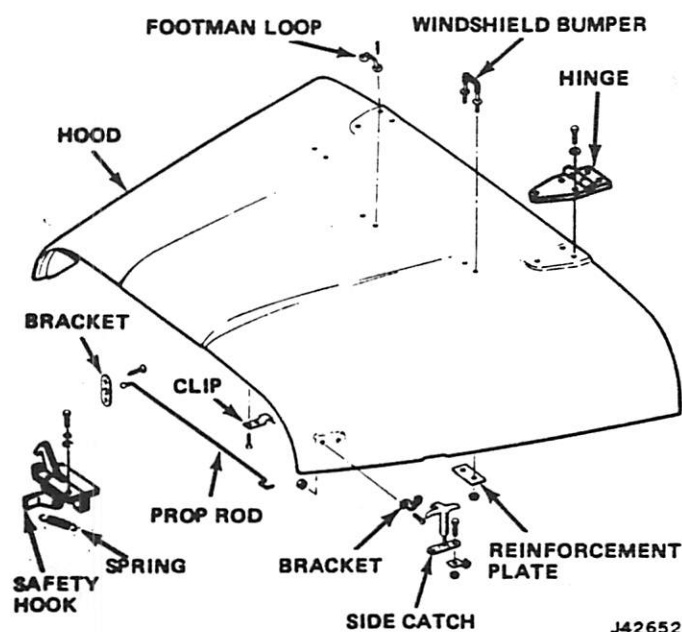

Fig. 3G-1 Hood and Related Parts—CJ and Scrambler Models
- (1) Mark position of hinges on their respective mounting panels before removing hood.
- (2) Detach hood panel from hinges by removing attaching screws, lockwashers, and flat washers.
- (3) Disassembly of CJ and Scrambler hood is accomplished by removing hood prop rod, hood prop rod retainer clip, hood side catch brackets, footman loop, and windshield bumpers (fig. 3G-1).
- (2) Disconnect hood release cable from lock assembly and remove cable support bracket and lower cable.
- (3) Remove tie straps from hood panel brace rod.
- (4) Detach hood panel from hinges by removing attaching screws, lockwashers, and flat washers.
- (5) Disassembly of hood is accomplished by removing hood lever lock assembly, left and right hood panel brace rods, and insulation pad (Cherokee and Wagoneer) cemented to hood panel (fig. 3G-2).
- (1) Remove screws attaching inside release cable bracket to cowl side trim panel using Torx Bit Tool J-25359-C.
- (2) Raise hood.
- (3) Disconnect hood release cable from lock assembly and remove cable support bracket (fig. 3G-2).
- (4) Remove hood cable tie straps.
- (5) Remove cable and rubber grommet from dash panel and remove cable.
The hood bumpers on the Cherokee, Wagoneer and Truck models are adjustable. Rubber caps must be removed to adjust the bumper screws (fig. 3G-2).